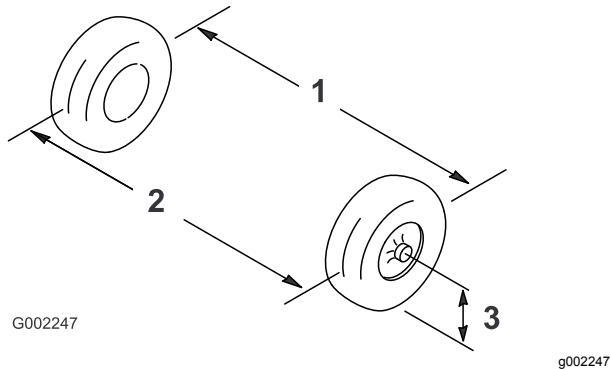

Figure 52
2. Measure the distance between both of the front tires at the axle height at both the front and rear of the front tires (Figure 52).